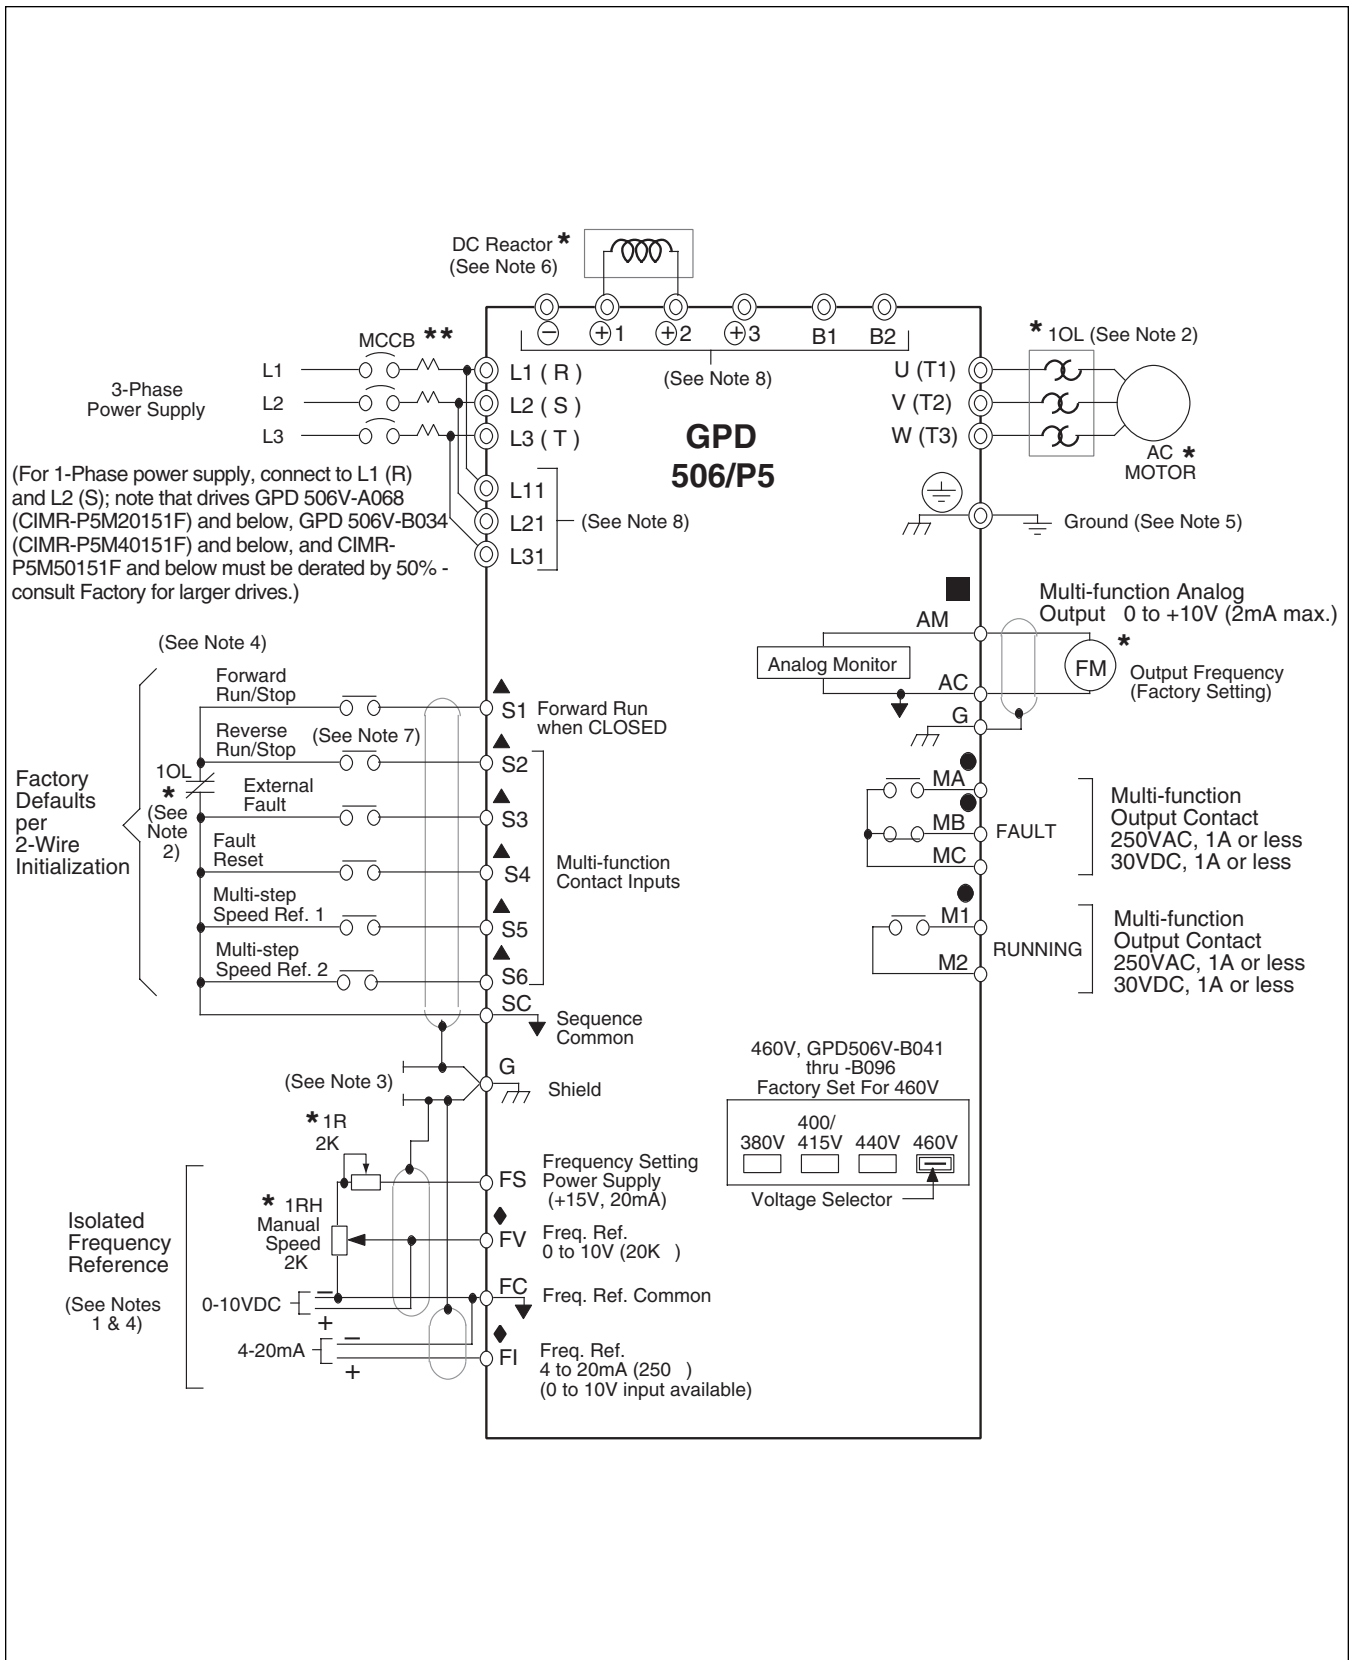

Figure 1-3. 230V, 460V, or 600V Interconnections - 2-Wire Control (n001 = 8) (with parameters n036 = 0, n037 = 2, n038 = 4, n039 = 10, and n040 = 11)
- Interconnections for external two-wire control in combination with the Digital Operator are shown in Figure 1-3.
Make wire connections according to Figures 1-3, 1-4 and Table 1-3; observe the following:
NOTES FOR FIGURE 1-3